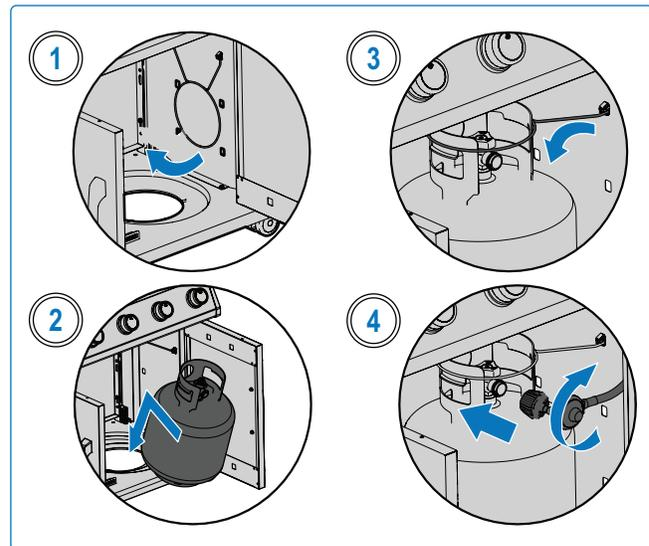

Fig. 6
- Check the cylinder for dents or rust, and have it inspected by your gas supplier (**Fig 6**).